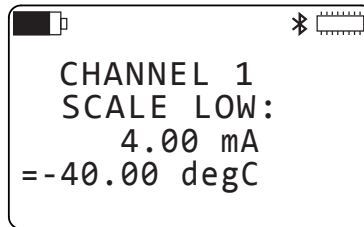

Figure 11. Scale Low screen
2. This screen displays the low input value, as determined by the input type. For example, if the input type is set to 4-20 mA, the displayed value is 4.00 mA, as shown in Figure 11. Below this field is the value to which the input setting will scale. This is expressed in the measurement units defined in the Units screen. To change this setting, press  $\leftarrow$  once to enter selection mode, then press  $\leftarrow$  a second time to begin edit mode.
In Figure 11 we have set the low scale measurement value to “-40.00 degC.” This means that when channel 1 receives 4mA input from the probe, the LCD will display this data as “-40 degC.”